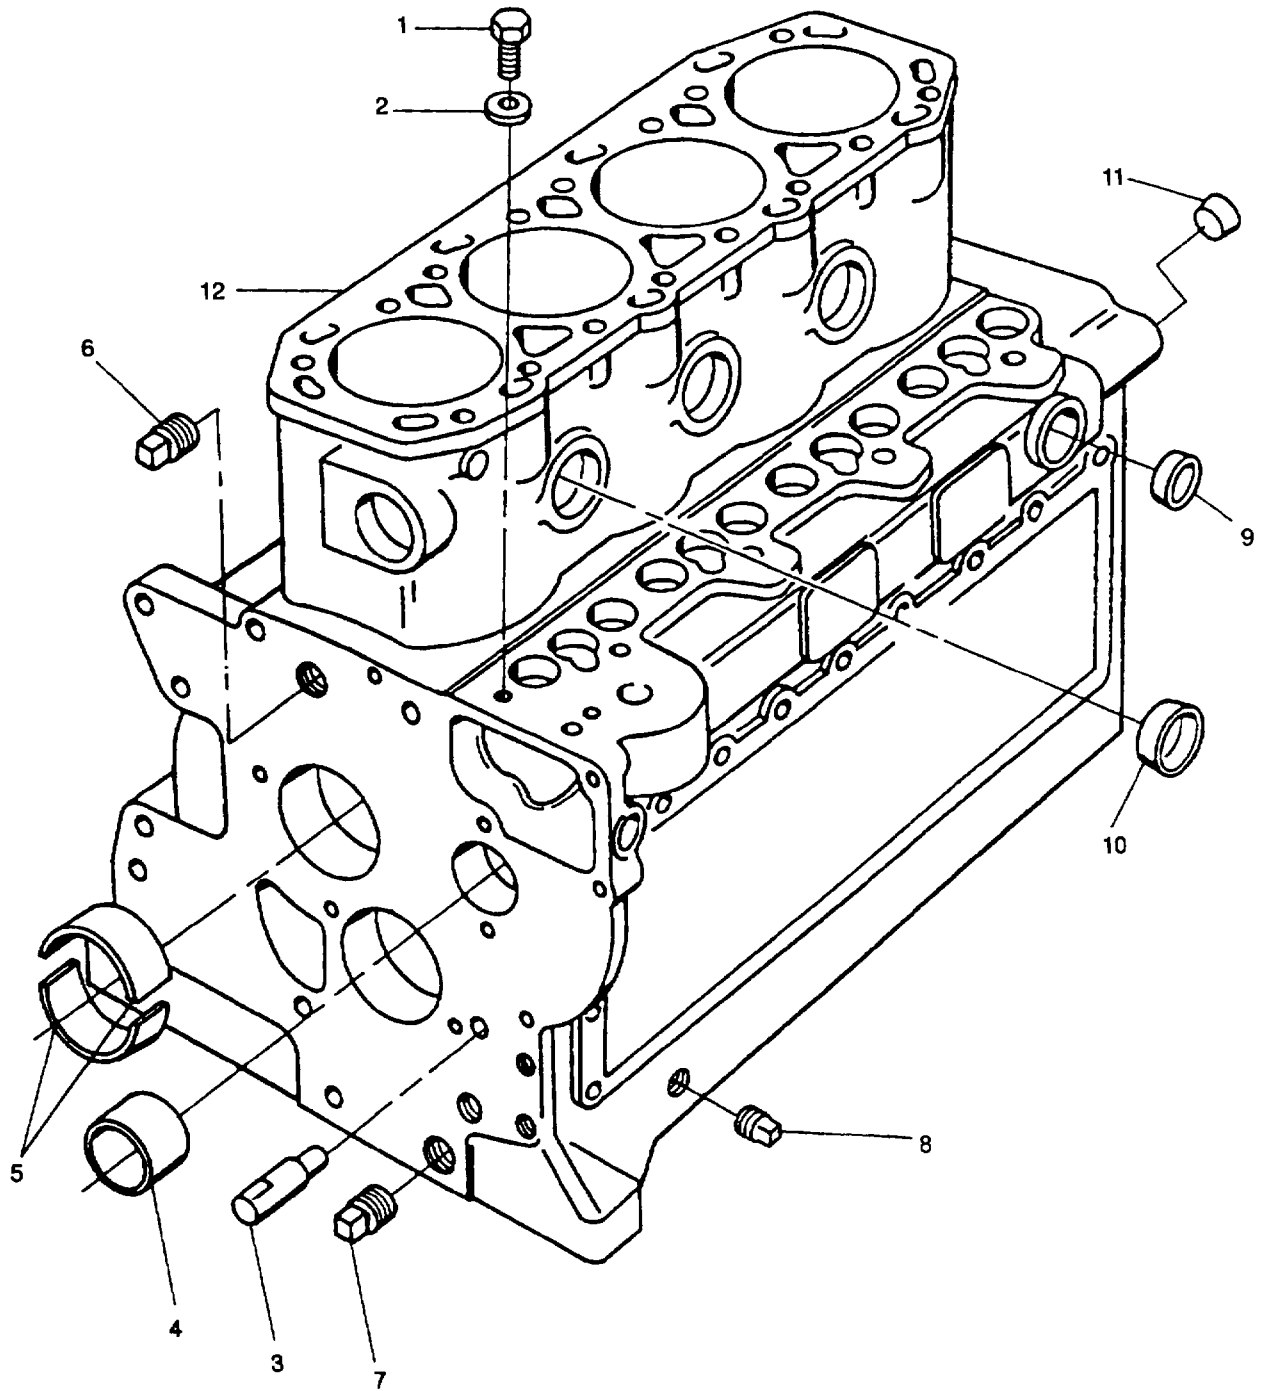

FIGURE 3-43. Crankcase Assembly
- a. If damaged, remove two capscrews (1, FIGURE 3-43) and copper washers (2).
- b. If damaged, remove two pivot supports (3).
- c. Using camshaft bushing tool (317-50106), remove camshaft bushing (4) as follows:
- (1) Install guide into bushing (4) from inside crankcase.
- (2) Install slide hammer onto guide threads.
- (3) Use slide hammer to remove bushing (4).
- d. Using main bearing tool (317-50111), remove crankshaft main bearing (5) as follows:
- (2) Install bolt and dolly into bearing (5, FIGURE 3-43) from oil seal side (crankcase outside face).
- (3) Install bridge over bolt threads until two legs are against crankcase.
- (4) Install spacer onto bolt.
- (5) Use a suitable wrench to tighten nut until bearing shells are withdrawn.
- (2) Place new bearing shells (5, FIGURE 3-43) into collar ensuring that one oil feed hole is in line with pilot pin and end of shell is in line with mark on collar face.
- (3) Place driver onto collar with cutout on driver located over collar pilot pin.
- (4) Push driver sufficiently until bearings come out other side of collar to provide a lead in.
- (5) Install assembly into crankcase from gear end with pilot pin in line with the oil feed hole in crankcase.
- (6) Place bolt through assembly.
- (7) Install bridge, spacer, and nut onto bolt.
- (8) Tighten nut until driver is against face of collar.
- (9) Remove tool.
- (10) Check that oil hole in bearing shell (5) is correctly aligned with oil feed hole in crankcase.
- h. Using camshaft bushing tool (317-50106), install camshaft bushing (4) as follows:
- a. Clean block (12, FIGURE 3-43) thoroughly using dry cleaning solvent (P-D-680), pressure steam, or a hot tank.